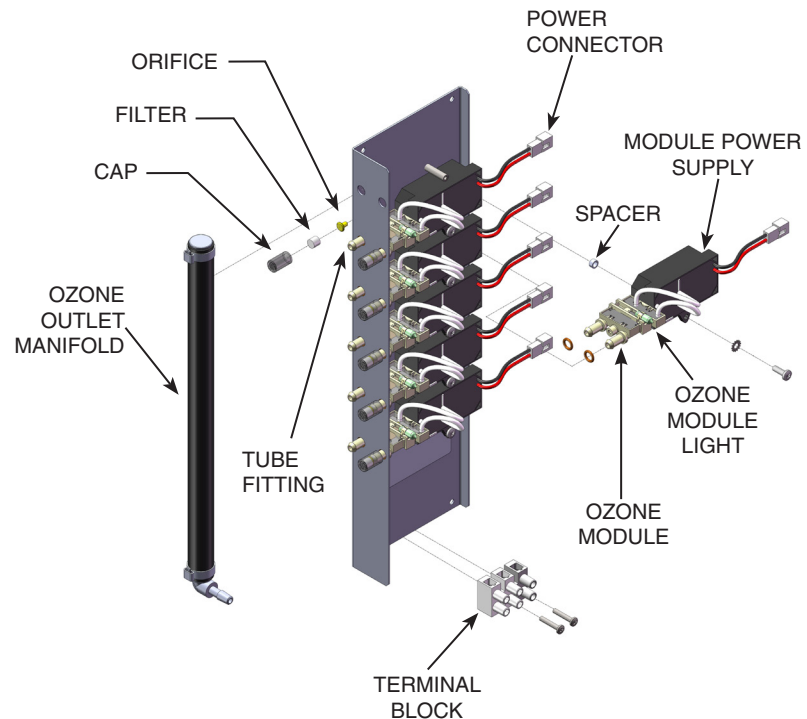

Figure 5: Ozone Generator Subassembly
Connect the Solar Eclipse to the pool timing clock so that the Solar Eclipse operates simultaneously with the pool pump. The Solar Eclipse has four available Knockouts for a 1/2" conduit fitting, two on the back and one on each side. Remove only the ideal Knockout for the installation and install the proper conduit fitting. Remove the Cover (Refer to Section 4C-1) and locate the Terminal Block (Refer to Figure 5) on the left side of the enclosure. Connect Line 1, Line 2, and Ground to the Terminal Block as indicated by the label on the Generator Bracket. Refer to the IMPORTANT SAFETY INSTRUCTIONS at the beginning of this manual for important wiring information.
The Solar Eclipse is constructed with 6 Corona Discharge Ozone Modules. Each Ozone Module has a green light to indicate that the Ozone Power Supply is operating properly. (Refer to Figure 5 for a more detailed view)
The air entering the Ozone Modules passes through individual Filters and an Orifice on each Module inlet. The Filters and Orifices are held in place by the rubber Filter Cap. (Refer to Figure 5 for a more detailed view)
4C. Ozone Module Servicing - Refer to Figure 5
7. Install the new Ozone Module by reversing the above steps. Refer to Figure 5 for visual instruction. Do not misplace spacer.